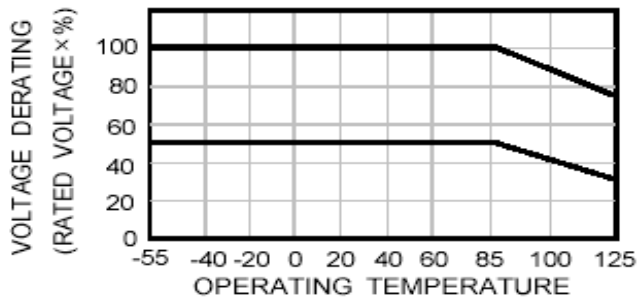

Fig. 3
8.2 If using over 85°C apply the derated voltage under 50% or 30% of the Figure 3.